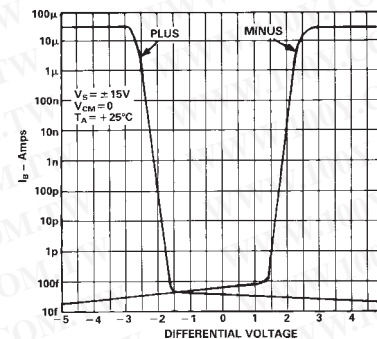

Figure 10. Input Bias Current vs. Differential Input Voltage
4. Figure 10 shows the AD515A's input current versus differential input voltage. Input current at either terminal stays below a few hundred fA until one input terminal is forced higher than 1 V to 1.5 V above the other terminal. Input current limits at $30\text{ }\mu\text{A}$ under these conditions.